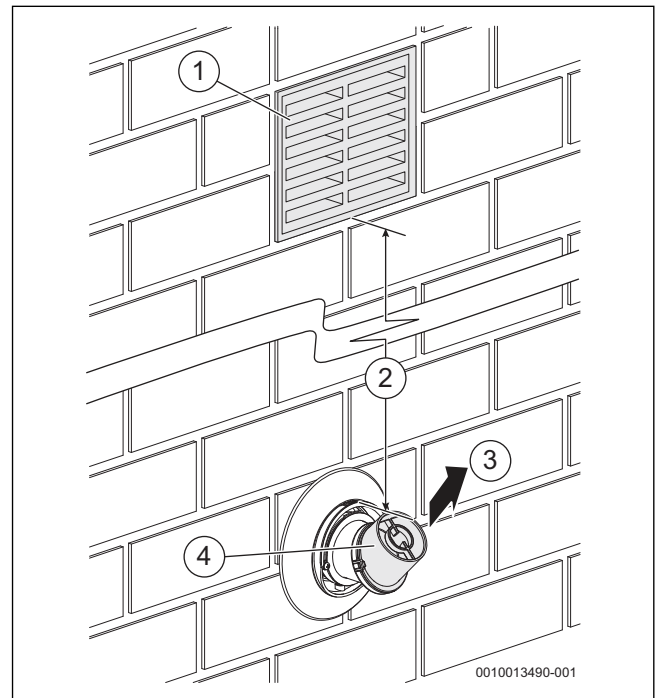

Fig. 27 Plume redirect distance to opening
- ▶ The flue terminal outlet position must follow those shown in figure 27.